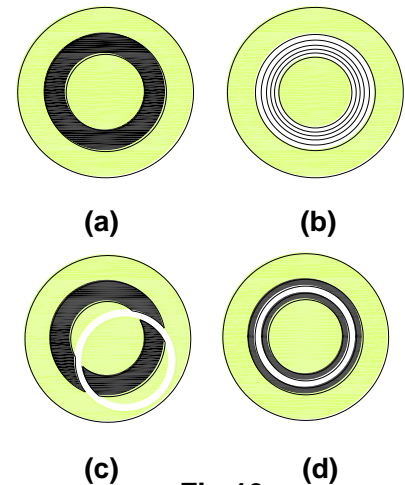

Fig.19
- b. Observe from the telescope. The bright ring and dark ring should be coincided with each other as shown in **Fig.19 (d)**.
- d. If the bright ring is still obscure as in **Fig.19 (b)**, adjust the condenser focus knob.
- e. If the two ring images are not coincided as shown in **Fig.19 (c)**, hold the ring plate from the bottom of the annular ring disk and adjust its position until two ring images are coincided.